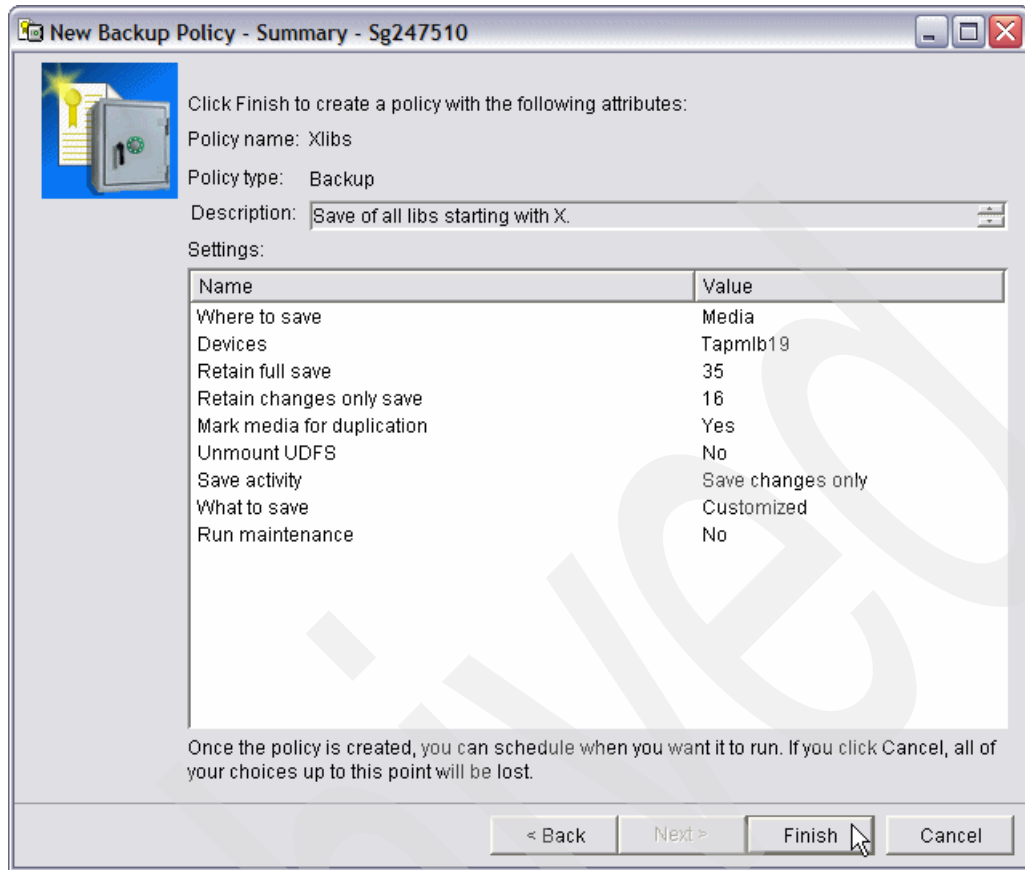

Figure 6-66 New Backup Policy - Summary
24. This opens the summary window shown in Figure 6-66. Review the summary information, especially the settings area and the text under that area. This area reminds us to be careful of using the Cancel button and that, after finishing the new policy creation, we should schedule when to run it.